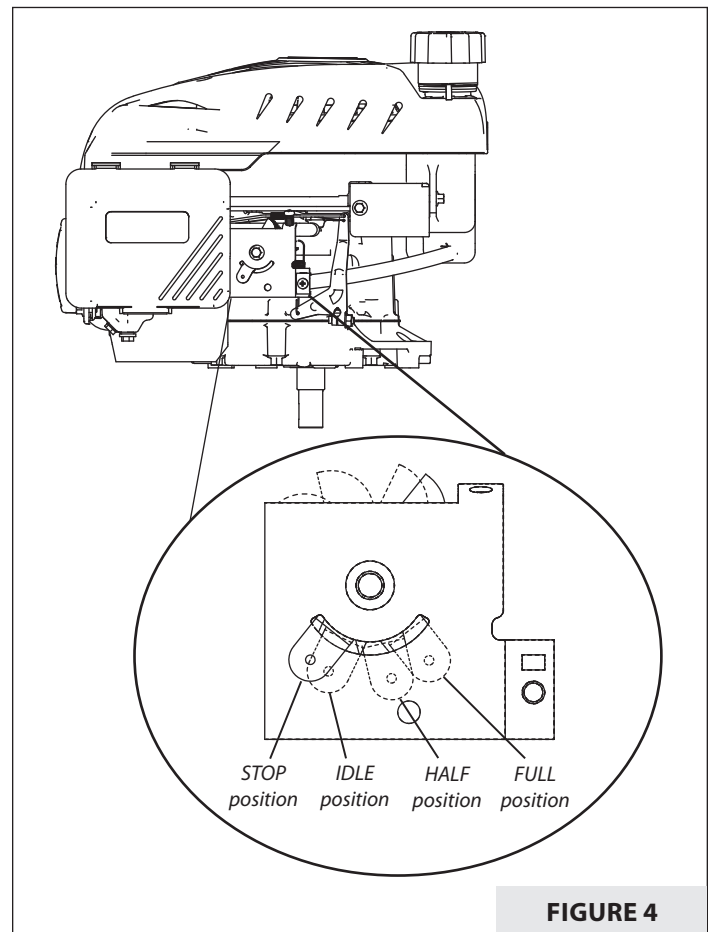

FIGURE 4
5. Move throttle between the "HALF" and "FULL" position. *(This is not necessary on models with throttle fixed at full throttle position.)* **SEE FIGURE 4.**
7. After engine begins operating, move throttle lever to "IDLE" position (**SEE FIGURE 4**). Run engine for 30 to 45 seconds at "IDLE" position until engine warms up. Then return throttle to operating speed. *(This is not necessary on models with throttle fixed at full throttle position.)*
2. Move throttle to "STOP" position. On models with fixed throttle, move ON/OFF switch to "OFF" position. **SEE FIGURE 4.**